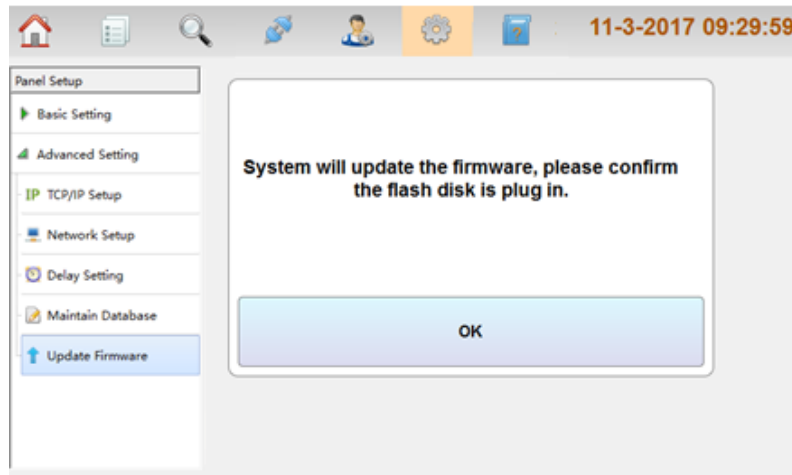

Fig.5-8
- **Update Firmware:** Clicking **Update Firmware** in **Advanced Setting** menu and entering the super password (obtained from the maintenance service supplier), users can update firmware as shown in Fig.5-8, then insert U-Key into the LCD drive board and click **OK** to update firmware.